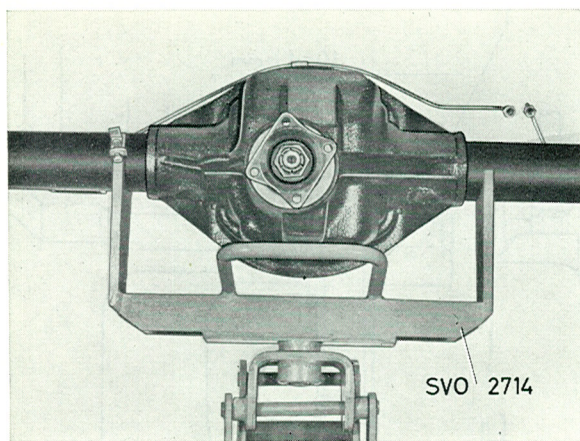

Fig. 4-122. Fixture for rear axle
1. Place the rear axle on fixture SVO 2714, which is mounted on a garage jack, see Fig. 4-122. Move the rear axle in under the vehicle and fit on the bolts for the support arms and torque rods.